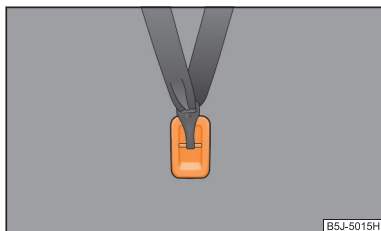

Fig. 129 Rear seat: Top Tether
In certain countries national legal provisions also require the equipment of the rear seat with fixing eyes for child seat using the “Top Tether” system ⇒ fig. 129.
- **Attach the child seats with the “Top Tether” system only to the points provided for this purpose ⇒ page 136, fig. 129.**